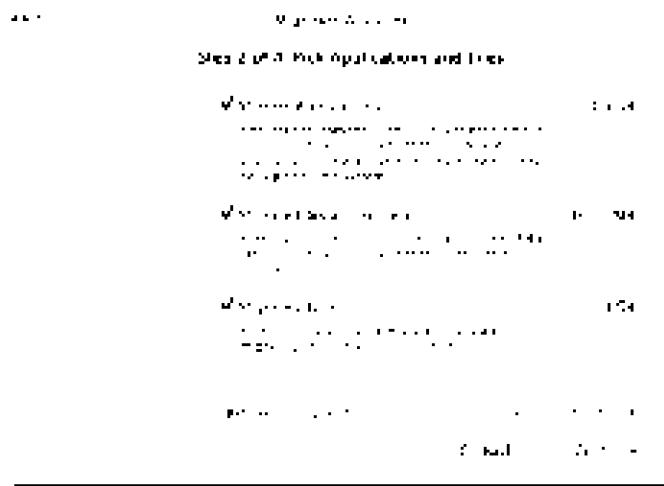

Figure 7-14:
9. Select the types of things that you want to move to the new hard drive, as shown in Figure 7-14.